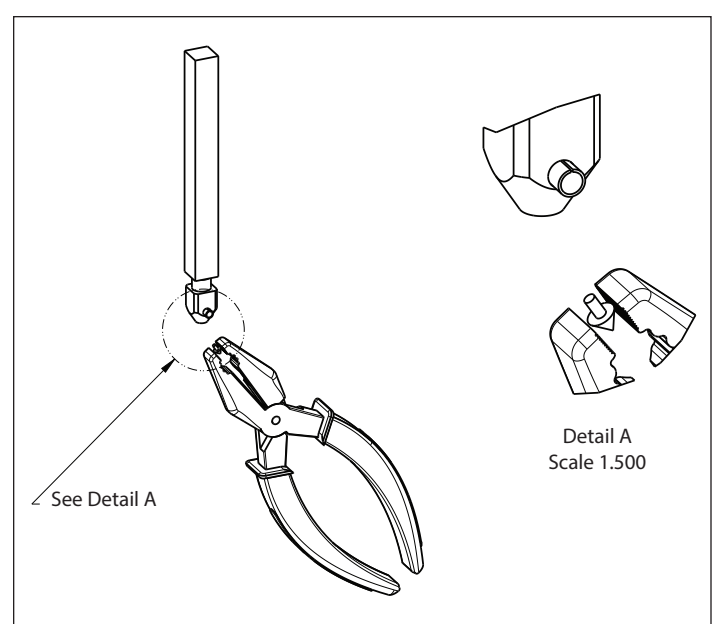

Figure 8. Twisting to Remove the Point.
- b. With a slight twisting motion of the pliers, remove the point (see Figure 8).